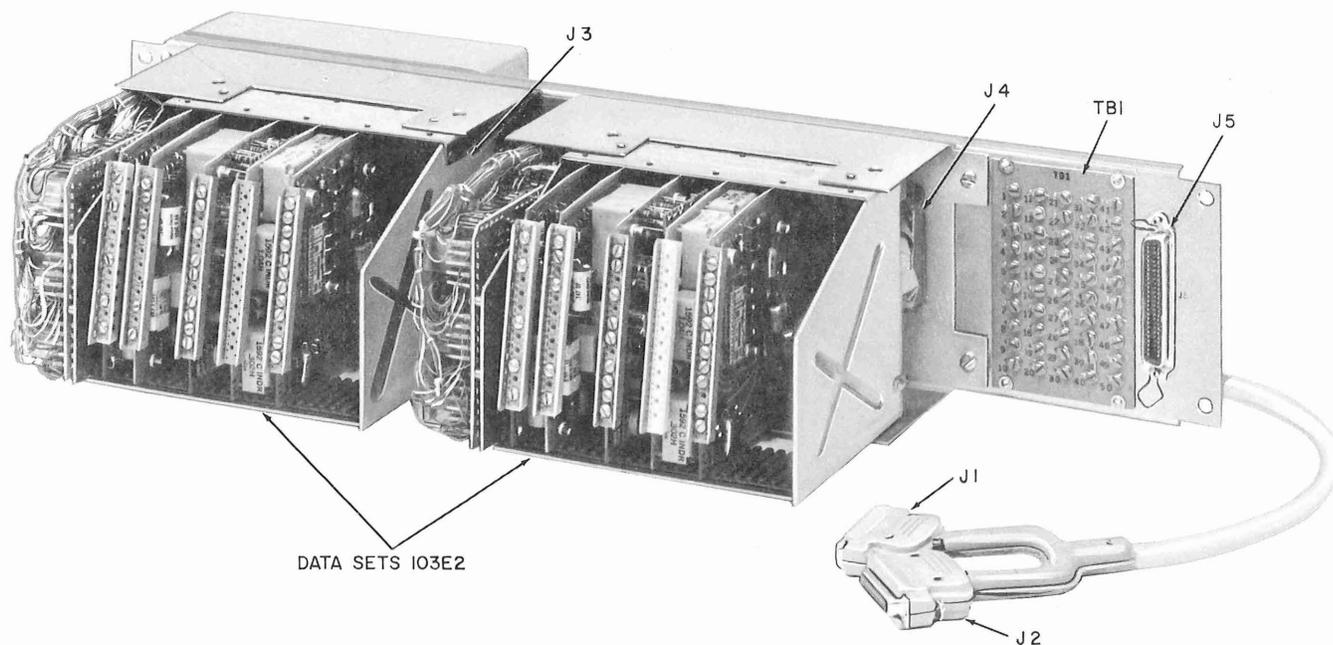

Fig. 1—2A-Type Data Mounting Equipped With Data Sets 103E-Type
1.02 The 2A-type Data Mounting (Fig. 1) provides additional data set circuitry, connectors (J3 and J4) and mounting details for two data sets, a